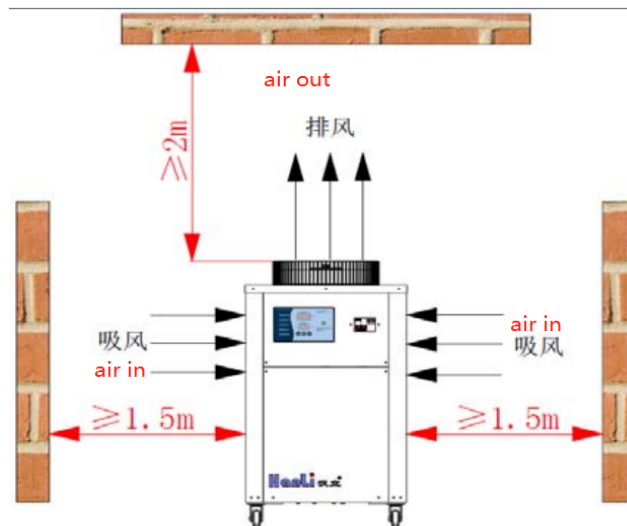

Figure 4 Equipment installation space requirements
- There should be no obstructions within 1.5m of the air inlet and 2.0m of the exhaust, so as not to affect the heat dissipation of the equipment, as shown in Figure 4.